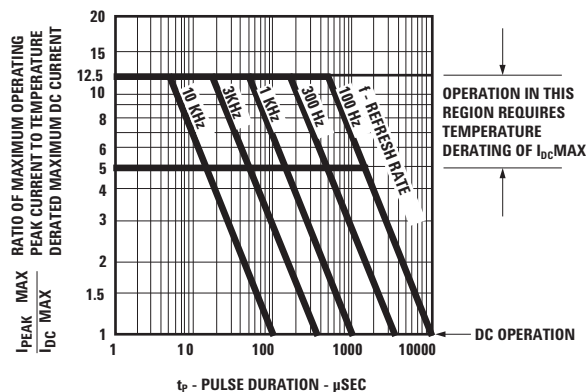

Figure 1. Maximum Tolerable Peak Current vs. Pulse Duration – Red.
2. See Figure 1 to establish pulsed operating conditions. Maximum pulse width is 1.5 ms.